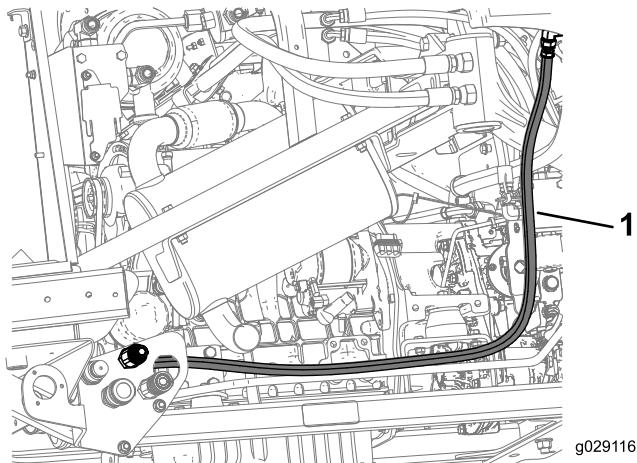

Figure 25
5. Install the hydraulic hose A from the 90° fitting (3/8 x 3/8 inch male) to the bulkhead union (2.57 inches) on the quick-coupling fitting (1/2 female x 1/2 inch male) on the bulkhead assembly as shown in Figure 25.